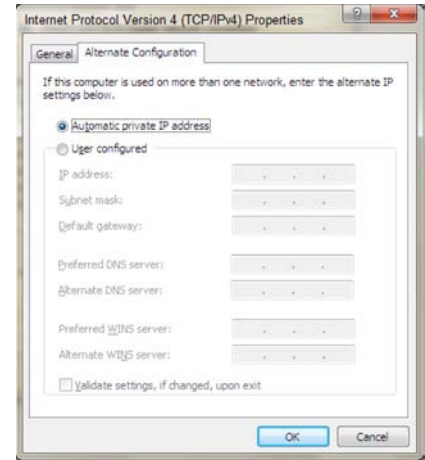

Fig. 16 Internet Protocol Version 4 (TCP/IPv4) Properties
- ➡ 5. Please open now in window, see Fig. 16, the register Alternate Configuration and activate the checkbox User configured.